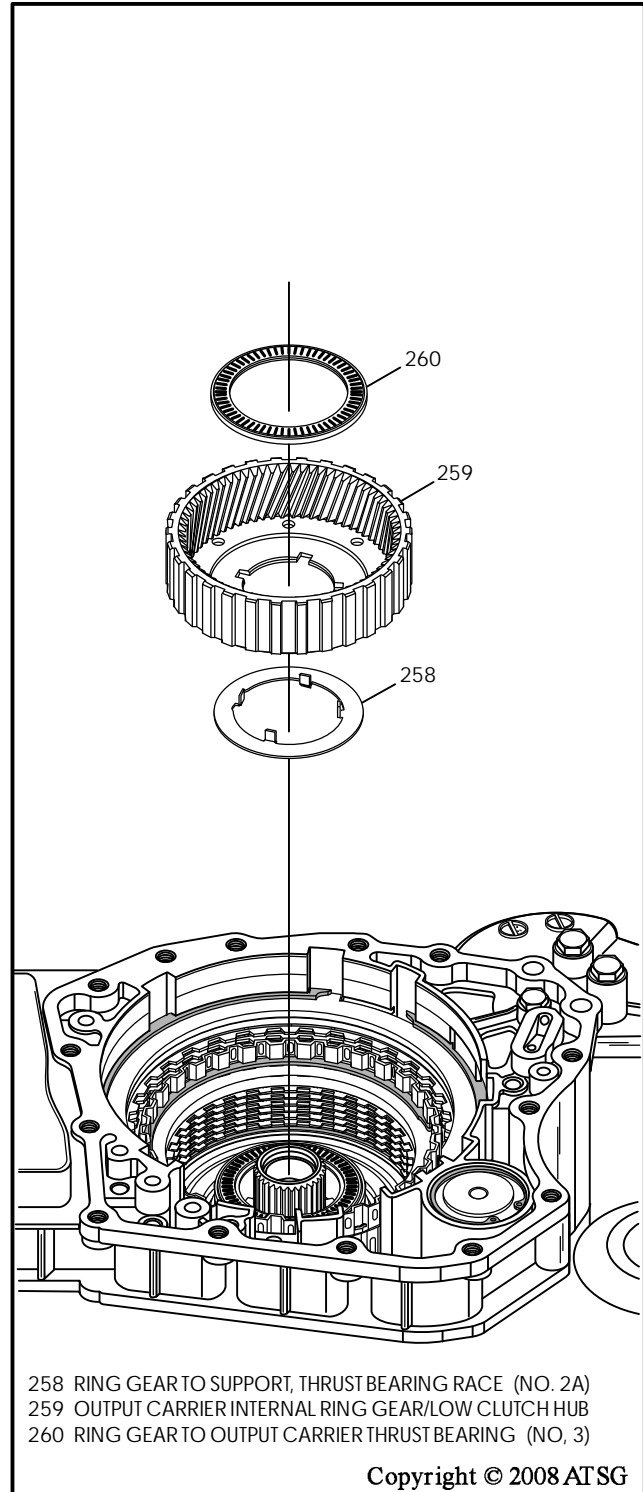

Figure 199
23. Ensure that number 2A thrust bearing race and number 3 thrust bearing are still in place on the pre-assembled output ring gear/low clutch hub, as shown in Figure 199.
24. Install the output ring gear/low clutch hub assembly by rotating back and forth to engage all of the low clutch friction plates, as shown in Figure 199.